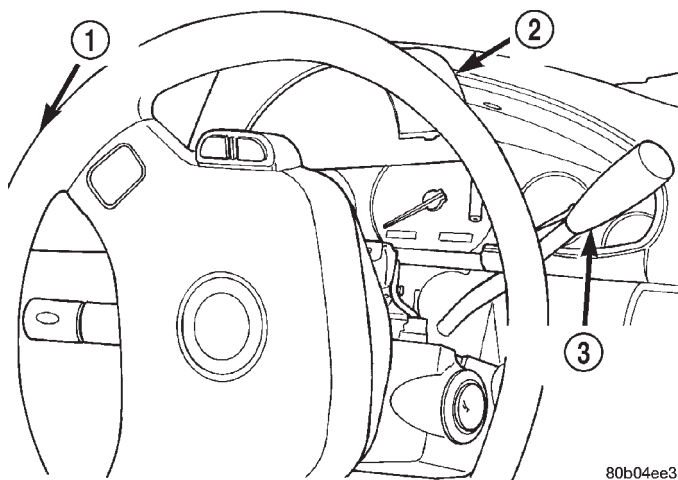
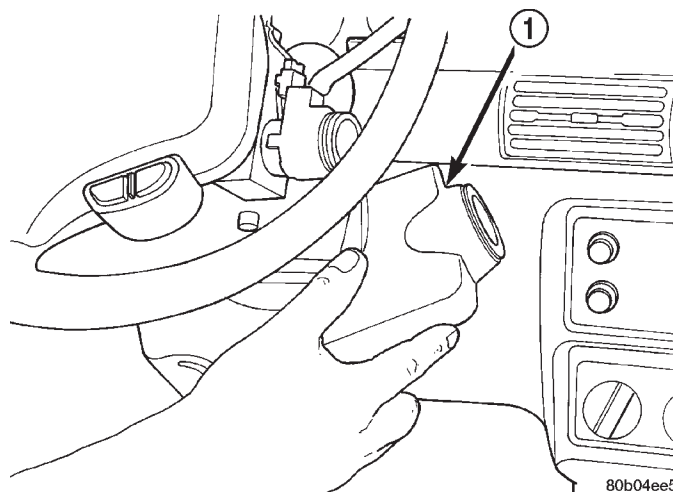

Fig. 43 Upper Column Removal/Installation
Fig. 45 Lower Column Cover Removal/Installation
(4) Tilt column down and remove upper half of column cover (Fig. 43).
(6) Remove the ignition key and remove lower column cover (Fig. 45).
(15) Reinstall upper and lower steering column shrouds (Fig. 43) (Fig. 45). Then install underpanel silencer/duct.
(16) Check shifter for proper operation. It should operate smoothly without binding. The engine starter should crank in park or Neutral positions only.